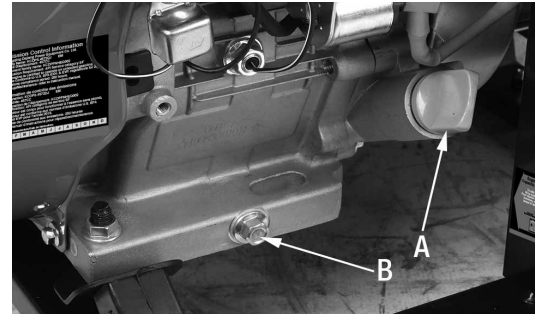

Figure 13
- 1) Loosen the oil gauge dipstick (A) Fig.13.
- 2) Place an oil pan underneath drain hex. bolt (B), remove hex. bolt (B) and drain oil.
- 3) Once all the oil has completely drained, retighten the hex. bolt (B).